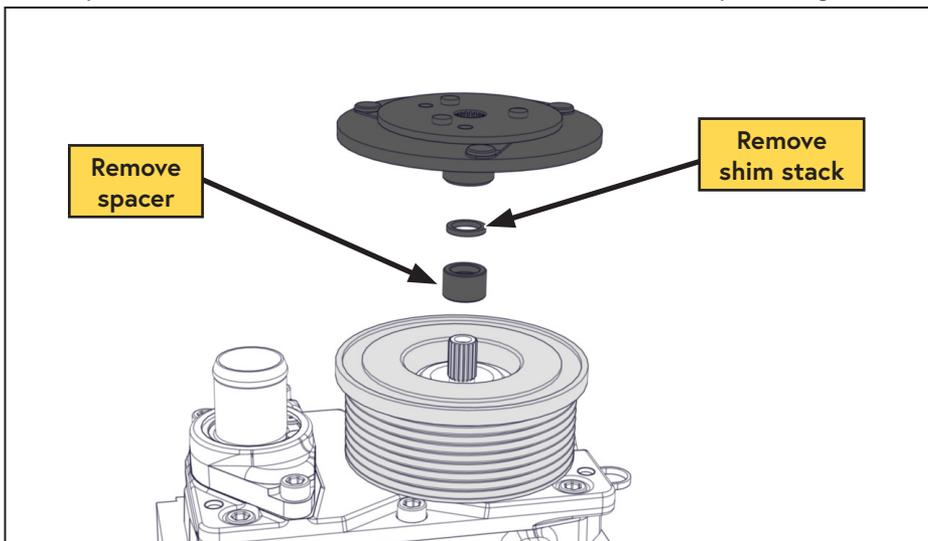

Figure 4 — Remove shim stack and spacer
- Remove the shim stack and spacer from the bottom of the armature and/or the compressor shaft. Set the shim stack aside and discard the spacer (Figure 4).